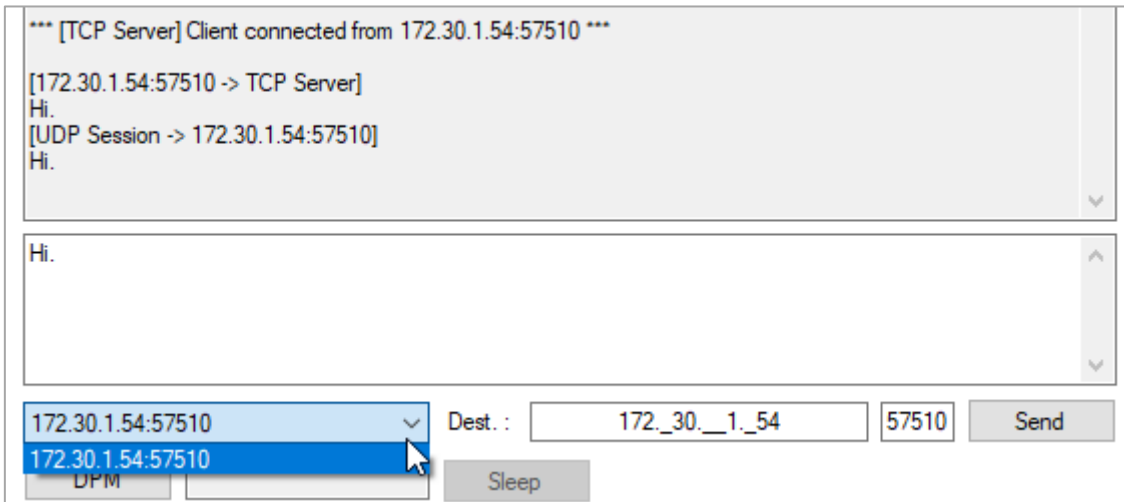

Figure 29: TCP Server Data Transfer
- **TCP Server:** Select the **TCP Server** option > Select the destination IP in the drop-down list > Type a message > Click the **Send** button (see Figure 29)